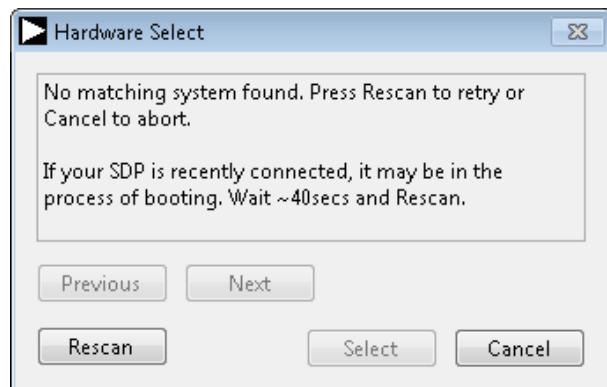

Figure 16. **SDP-H1** Board Not Connected to the USB Port Error
- The software automatically seeks to find the hardware connected; therefore, when no hardware is connected, it displays a connectivity error (see Figure 16) when the software is launched. Connect the evaluation board to the **SDP-H1** and connect the **SDP-H1** to the USB port of the PC, wait a few seconds, click **Rescan**, and then follow the instructions (see Figure 16).